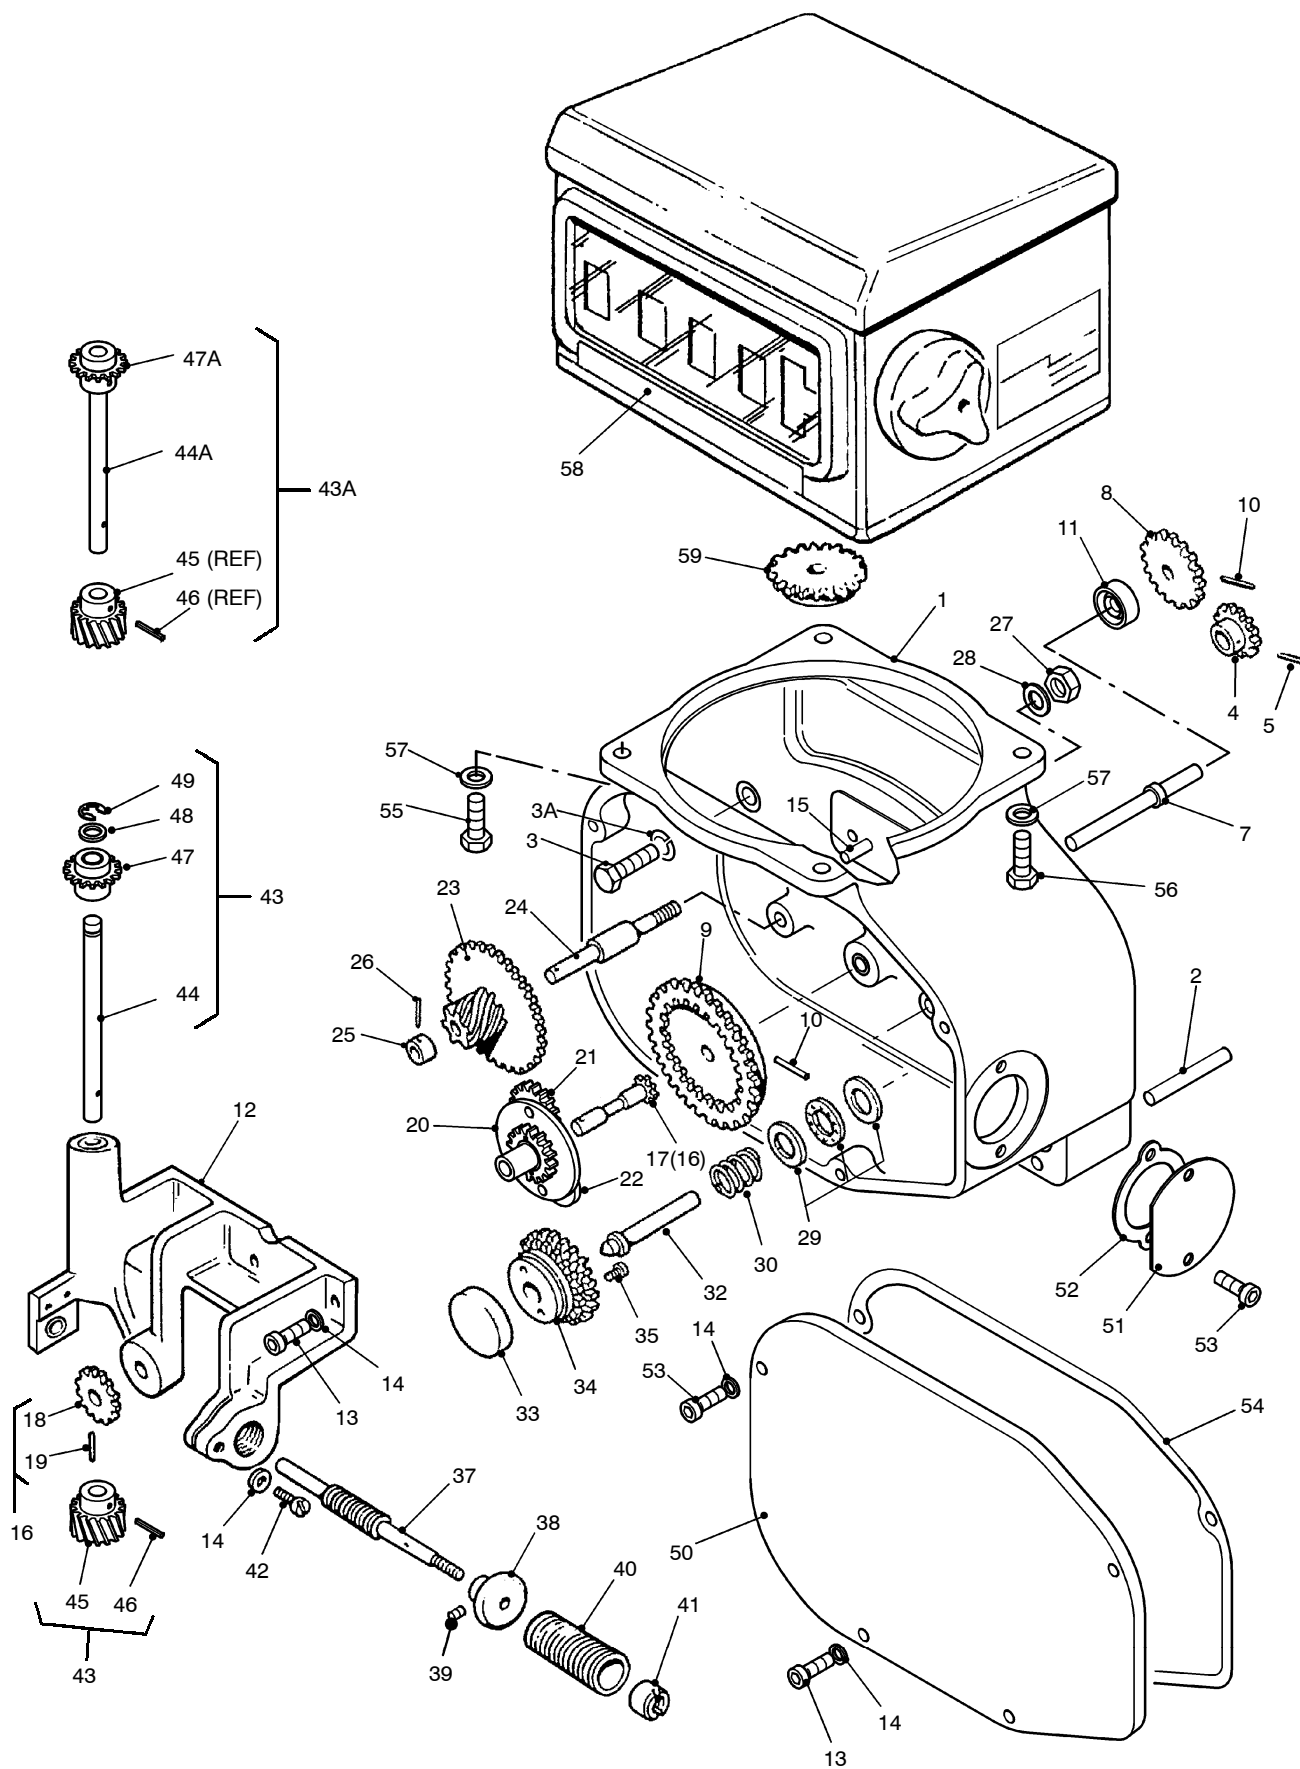

FIG 5.5 CALIBRATING MECHANISM
- 3.3 Refer to Fig 5.5. Remove the four screws (13), (53) and washers (14) securing the calibrating mechanism cover (50) to the base (1). Remove the cover and discard the gasket (54).
- 6.1 Although operational failures of the calibrating mechanism are rare, it is recommended that, if possible, any necessary repairs are carried out without the removal of the calibrating adjustment mechanism. If dismantling is found necessary refer to Fig 5.5.
- 11.1 Refer to Fig 5.5. Re-assemble components dismantled at Para 6.